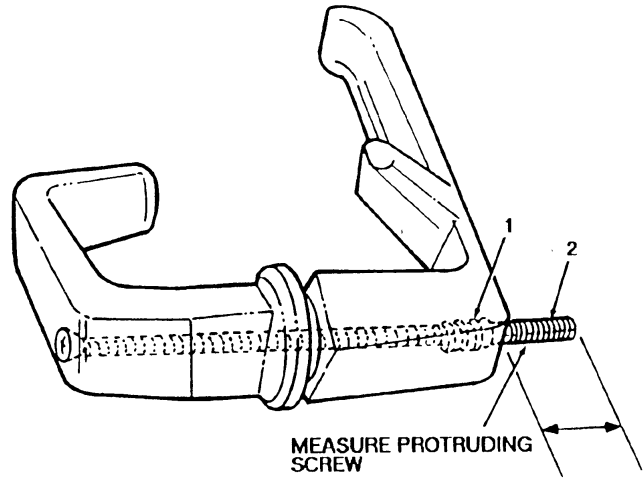

FIGURE 3-15
10. Measure the length of screw (2) protruding from the insert (1); record that measurement. (see figure 3-15)